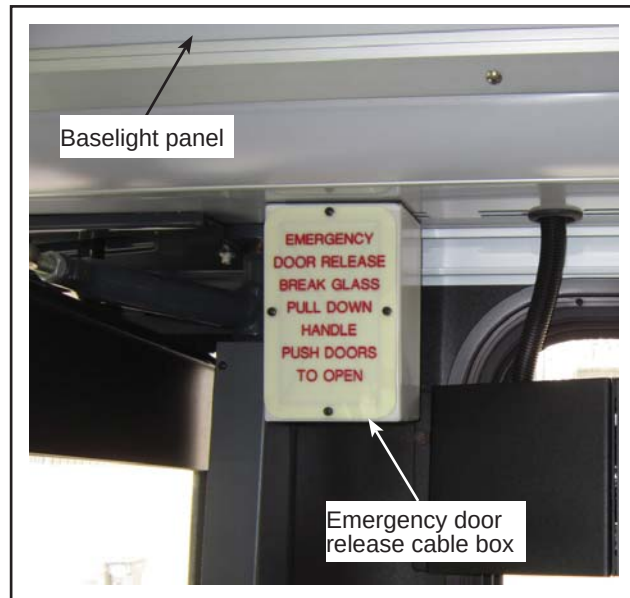

Figure 1 - Emergency Door Release Cable Box (Typical)
- 1.1. Locate the front emergency door release cable box. See Figure 1.
- 1.2. Remove the baselight panel. Retain the hardware. See Figure 1.
ANNEX 1 Figure 1: Vehicle Front Section